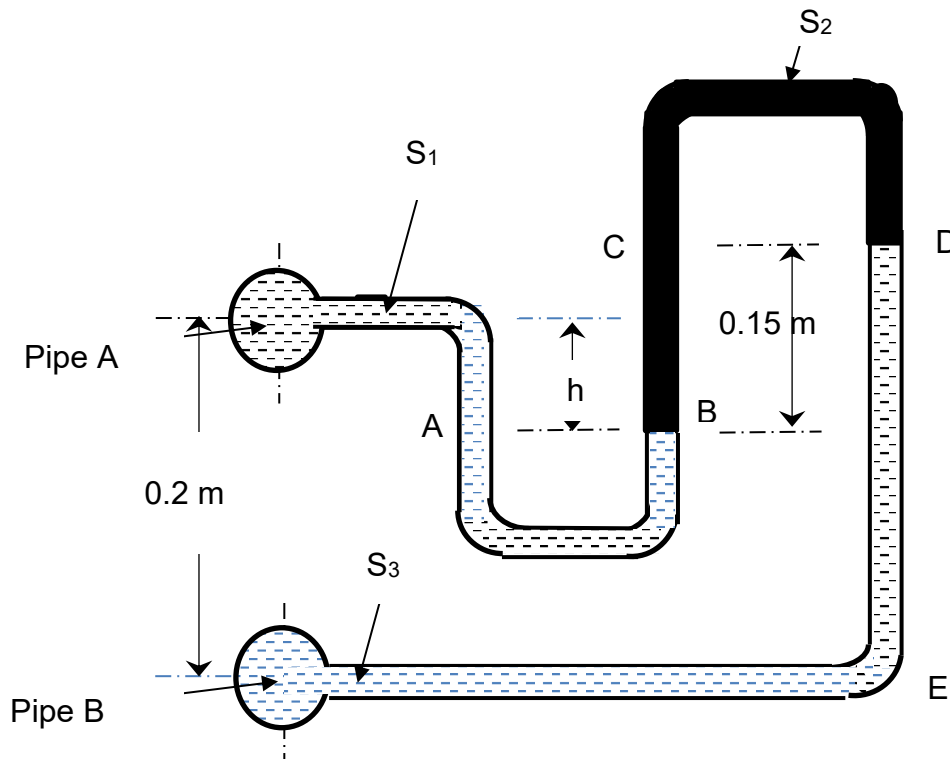

Figure 1
1. (a). A manometer is used to measure the pressure between Pipe A and Pipe B as shown in **Figure 1**. The liquid specific gravity for $S_1 = 1.5$, $S_2 = 0.8$ and $S_3 = 1.3$. Determine the pressure difference between Pipe A and Pipe B.